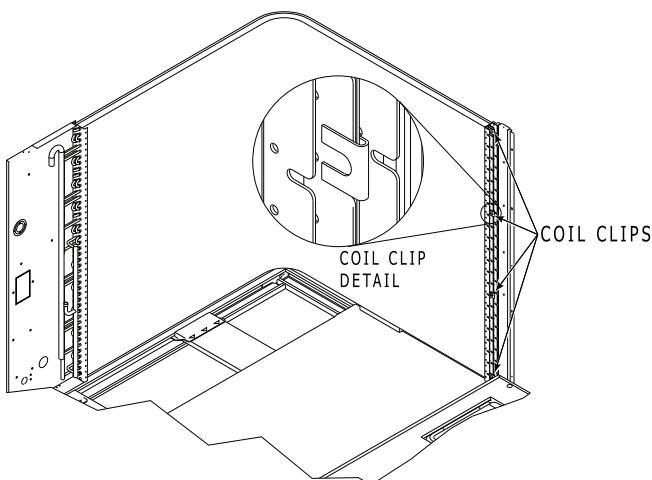

Fig. 18 – Condenser Coil Clips
5. Remove the screws from both sides of the 4 coil retaining clips on the hairpin end of the coil tube sheets. (See Fig. 18.)